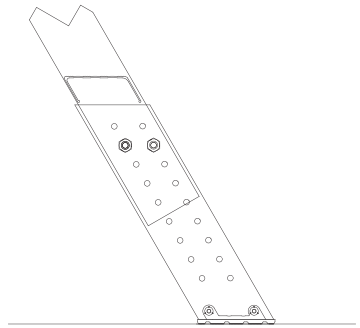

FIGURE 14
E. Slide aluminum foot over ladder rail as shown in Figure 14. Position so the rubber foot is in contact with the floor. Align with closest set of predrilled holes in rail. Attach using (2) ¼” bolts and serrated nuts per side (included).